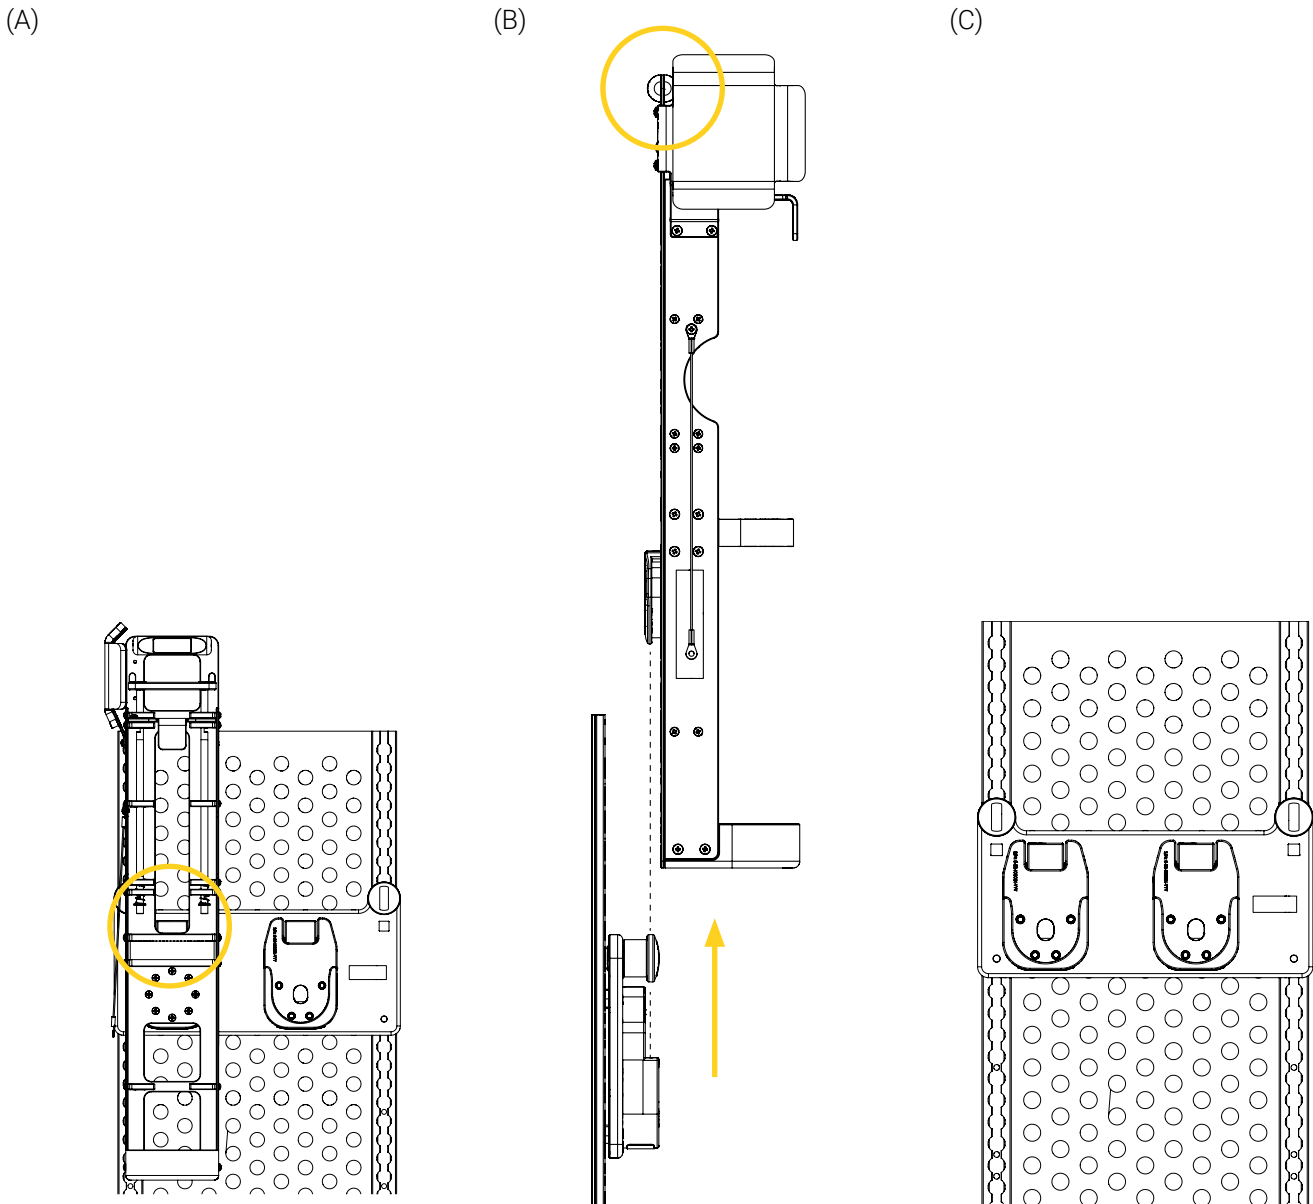

Figure 13: Removing the gas cylinder holder from the Micro Base
1. Press and hold the quick release button of the Micro Base, then pull the gas cylinder holder out of the Micro Base vertically using the transport handle (Figure 13).